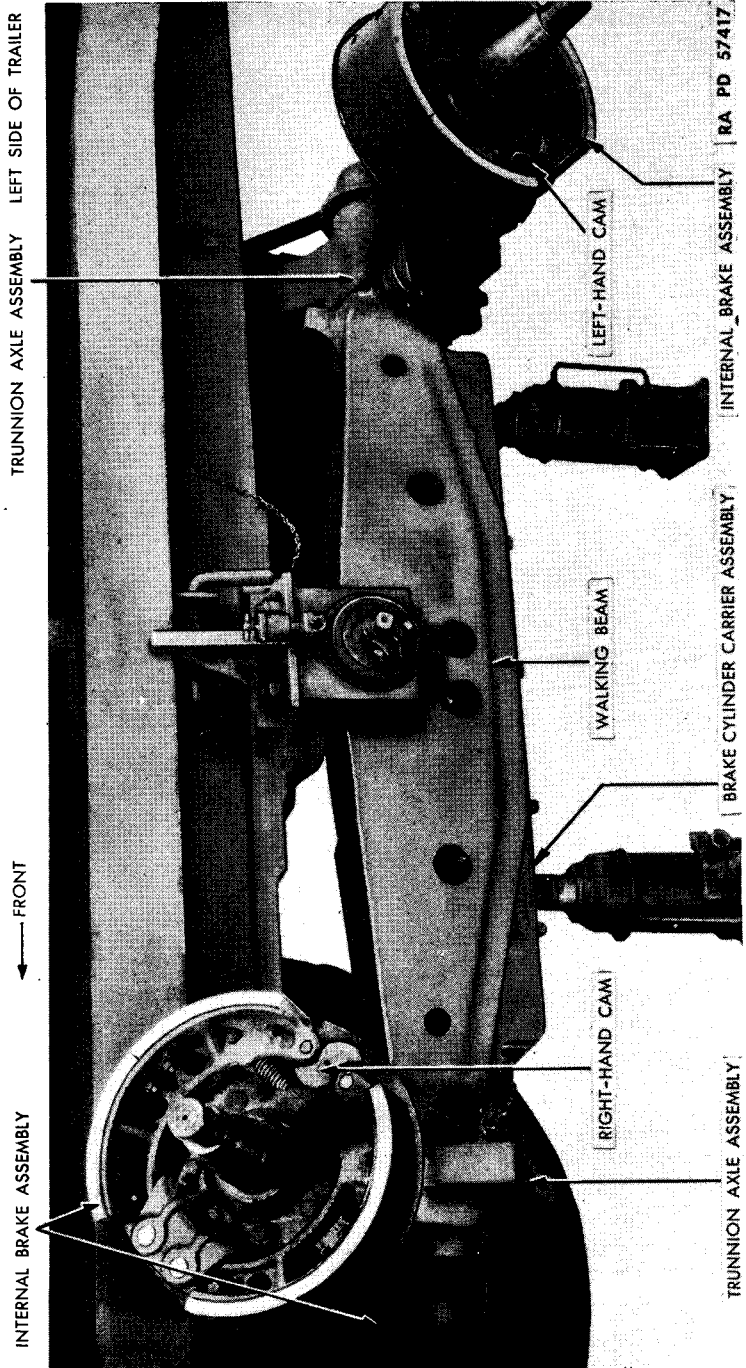

Figure 4 — Internal Brake and Under Carriage
a. The brakes (fig. 4) are of the internal-expanding, double-anchor, two-shoe type. The shoes are operated by an S-type cam. The brake shoes are mounted on eccentric anchor pins and a cam. The camshaft is provided with a 360-degree slack adjuster. The camshaft is carried on a self-aligning, ball-bearing plus needle bearing to prevent drag. The brakes are actuated by four air cylinders mounted in the hollow section of the walking beam. Forward movement of the cylinders operates the camshaft, which expands the two shoes against the drum.